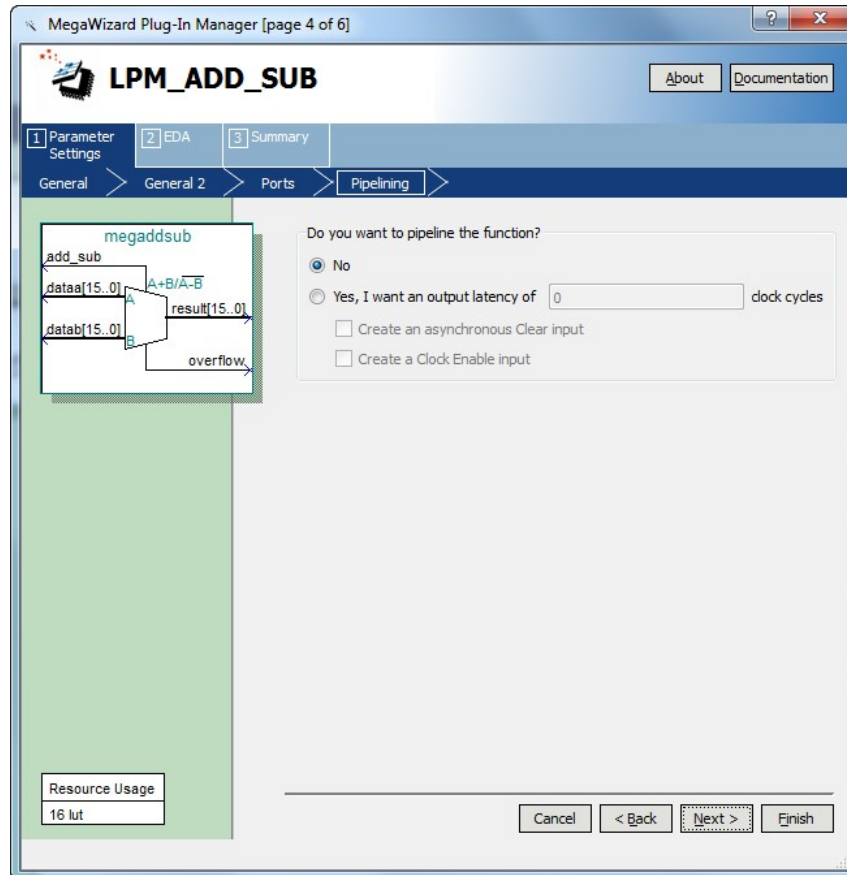

Figure 9. Refuse the pipelining option.
7. In the box in Figure 9 say No to the pipelining option and click Next.